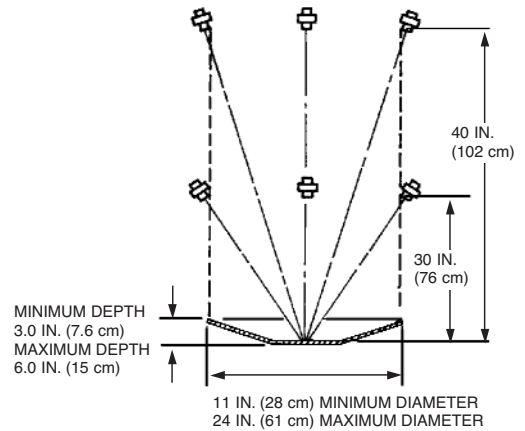

FIGURE 65
2. A 1N Nozzle, Part No. 419335, will protect a wok 11 in. (28 cm) minimum diameter up to 24 in. (61 cm) maximum diameter. The wok depth must be no less than 3 in. (8 cm) and no greater than 6 in. (15 cm). The nozzle tip is stamped with 1N indicating that this is a one-flow nozzle and must be counted as one flow number. When using this nozzle, the nozzle must be positioned anywhere along or within the perimeter of the wok, aimed at the center, 30 in. to 40 in. (76 to 102 cm) above the hazard surface, as shown in Figure 65.